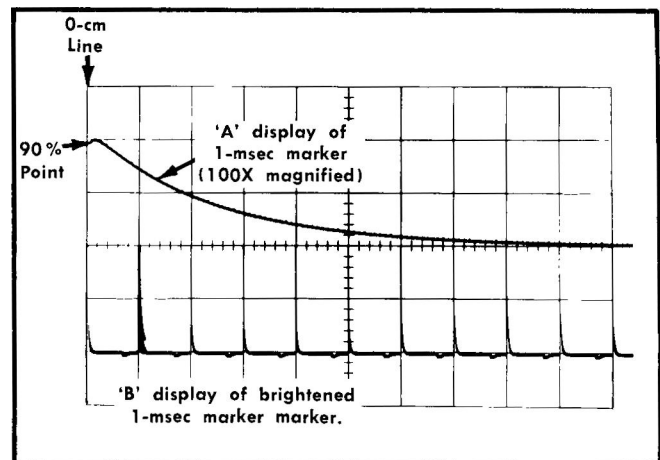

Fig. 5-12. Adjusting the DELAY START R418 control for proper A delayed-sweep starting time.
- Adjust DELAY START R418 (see Fig. 5-2) so the 2nd 1-msec time marker on the B display is brightened. For an accurate adjustment, observe the A time-base display and set DELAY START R418 so the rising portion, starting from the 90% level of the marker, is displayed (see Fig. 5-12). The A display is a 100X magnification of the brightened portion of the B display.
- Adjust DELAY STOP R415 (see Fig. 5-2) so the A display starts from the 90% point on the rise of the 1-msec marker. This magnified 1-msec marker on the A display is the same marker as the brightened 1-msec marker located on the B display at the 9-cm graticule line. If the adjustment is made correctly, the A display obtained in this step should appear the same as the A display obtained when performing step 26k (shown in Fig. 5-12).